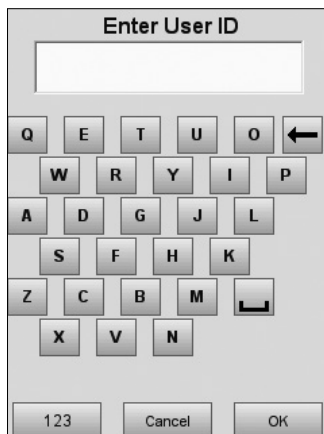

Fig. 8-36 Enter User ID
- Enter the security information if enabled (Fig. 8-36). Information on security functions can be found in Section 3.2.3.